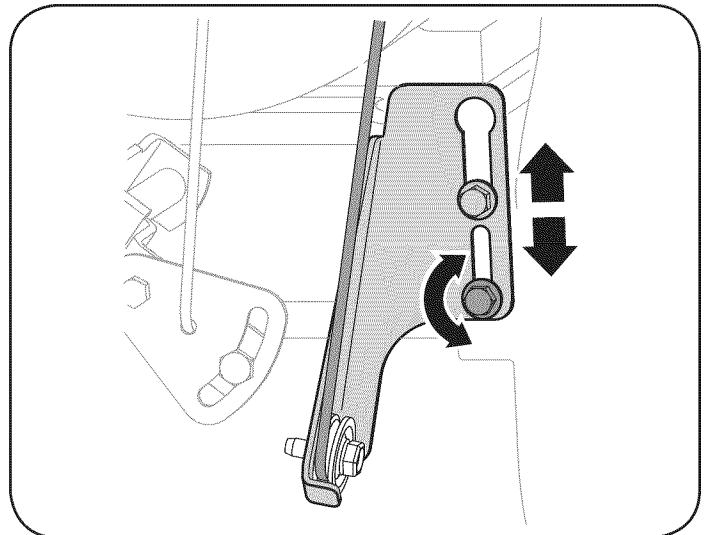

Figure 26
- b. Loosen the lower hex bolt on the drive cable bracket. See Figure 26.